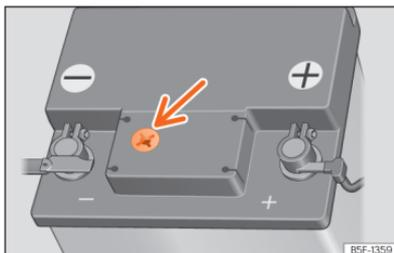

Fig. 188 Sight glass on the top of the 12 volt battery (schematic representation).
- Check the colour display in the sight glass on the top of the battery >>> **Fig. 188**.